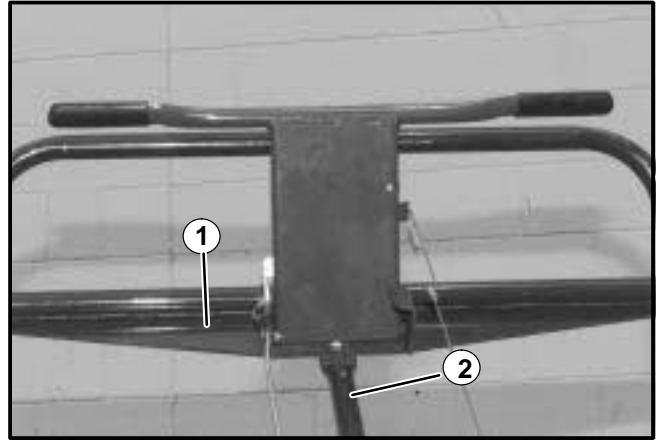
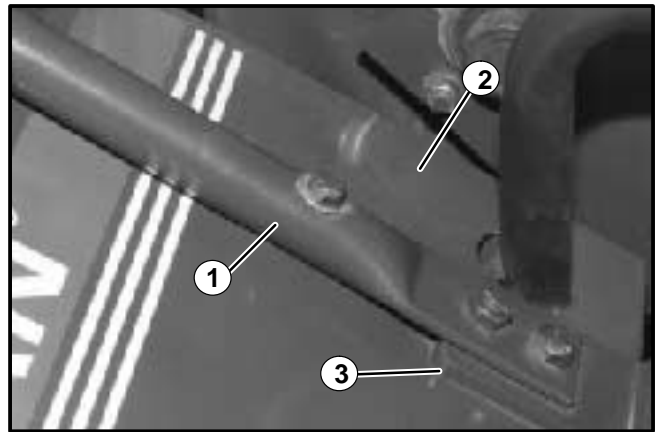

FIGURE 2
FIGURE 3
7. Attach center support to mounting bracket on handle (See Figure 2) and to mounting tab on frame at rear of engine (See Figure 3) with four (4) 3/8-16 x 3/4" flangelock screws and nuts. Tighten all hardware installed in Steps 3 through 7.
8. Secure tine shield to center support with one (1) 5/16-18 x 1 1/2" screw, washer, lockwasher and locknut. See Figure 3.